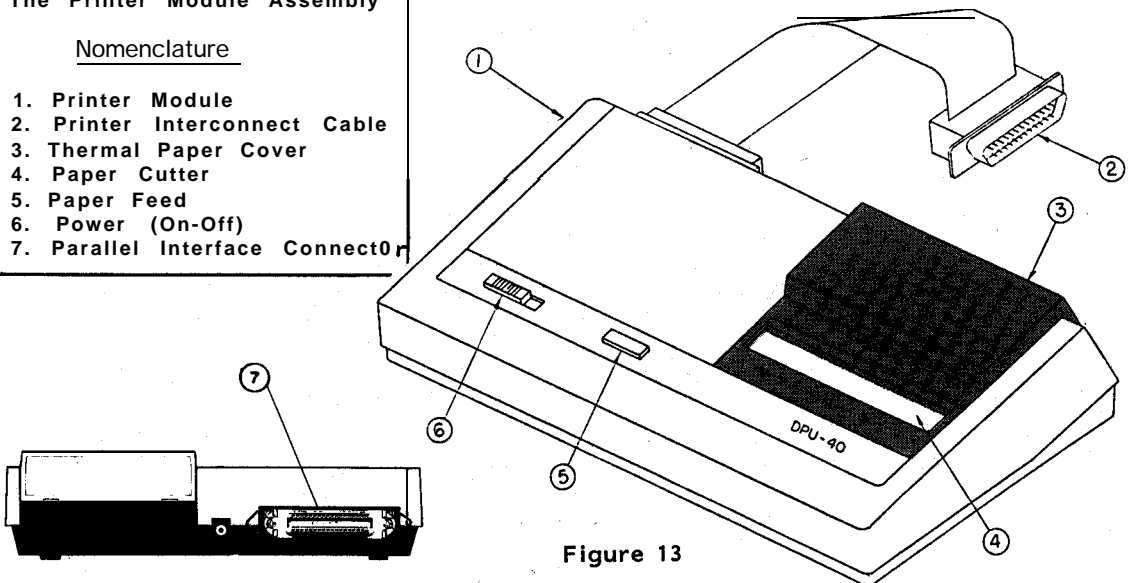

Figure 13
2. General Description (See fig. 13)